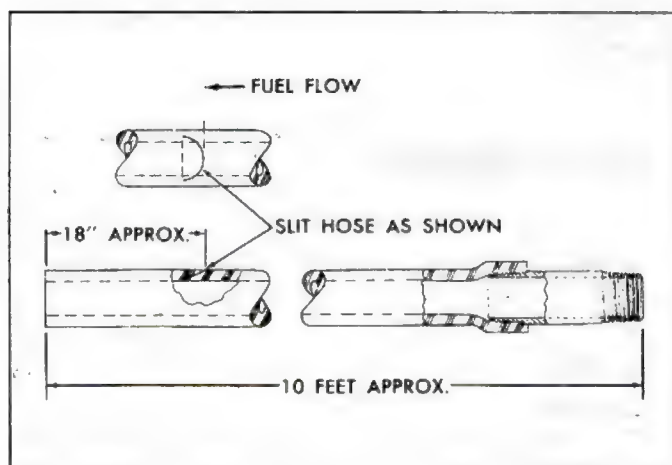

Fig. 5—Siphon Construction
1. Obtain approximately 10 feet of 3/8" I.D. hose and cut a flap-type slit 18" from one end. Make this cut on the hose in the direction toward the shorter end (See Figure 5).